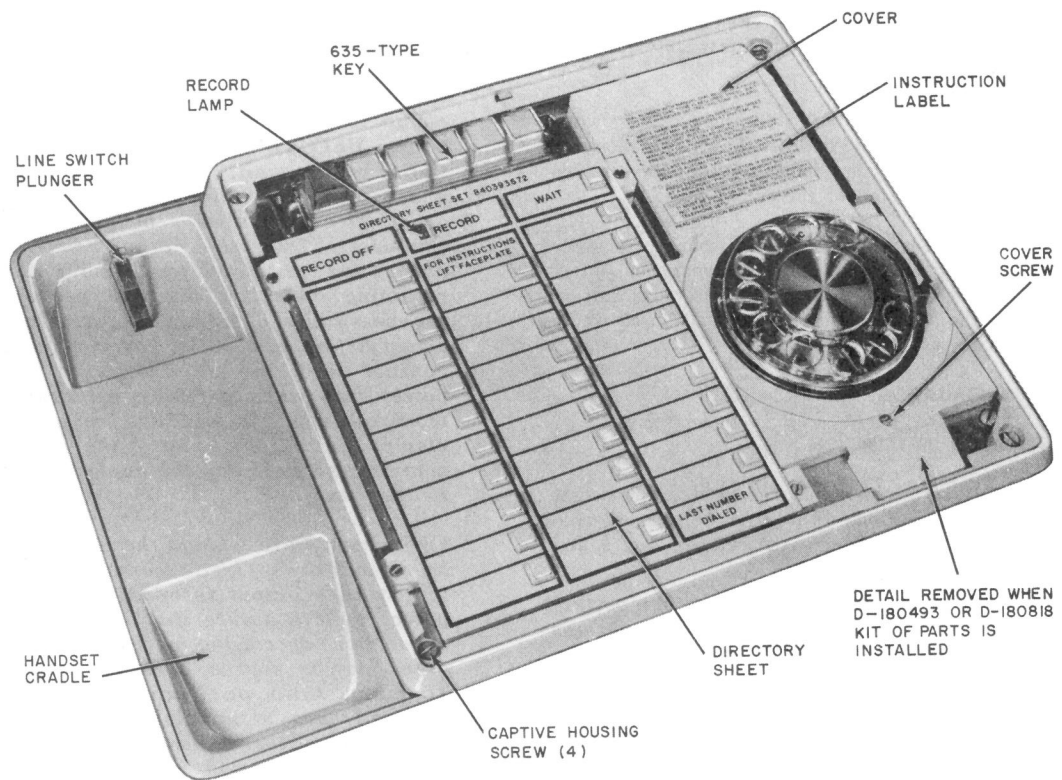

Fig. 2—872A1M Telephone Set—Faceplate and Handset Removed
**2.06 Operating Features (Fig. 2).**
- Line key (635BT5), 6-button key. Hold with five line pickup buttons which are convertible to nonlocking. An additional momentary contact (logic reset switch) is attached to the hold side of the key to reset the logic circuit anytime a key button is depressed.
**3.05** The directory sheets (Fig. 2) fit over the buttons of the memory and are held in place